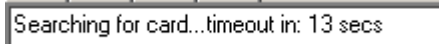

Figure 27: Searching for Card
5. Power down and then power up the receiver when “Searching for card” appears in the main display, see *Figure 27*.